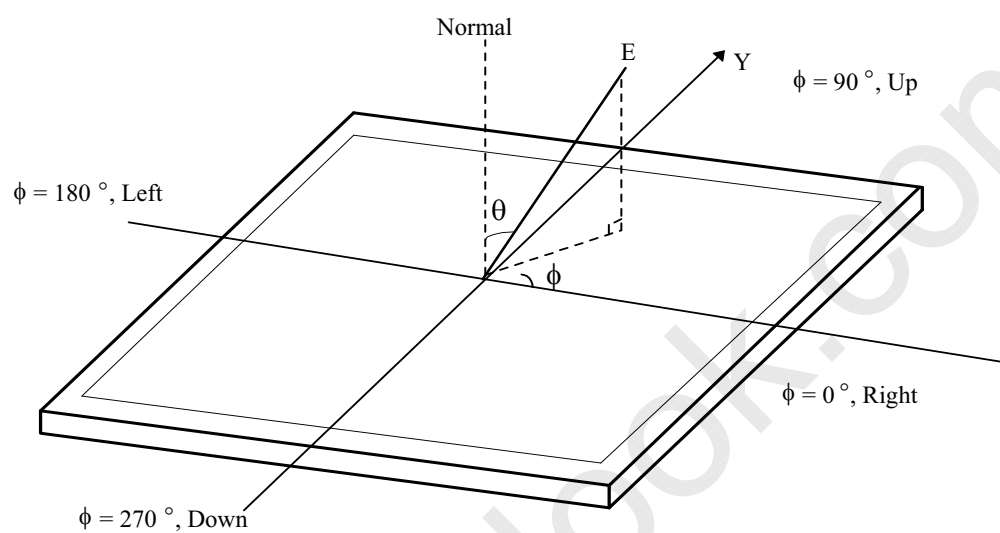

FIG. 12 Viewing Angle
5. Viewing angle is the angle at which the contrast ratio is greater than 10. The angles are determined for the horizontal or x axis and the vertical or y axis with respect to the z axis which is normal to the LCD module surface. For more information, see the FIG. 12.